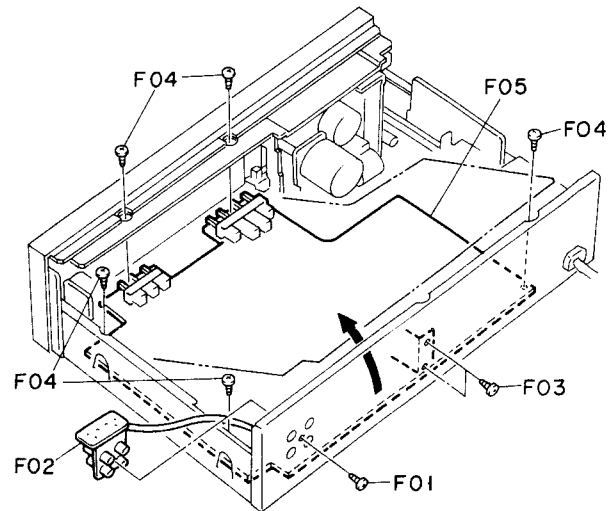

Fig. 2.4
2.4. Pin Jack P.C.B. Ass'y and Main P.C.B. Ass'y Refer to Fig. 2.4.